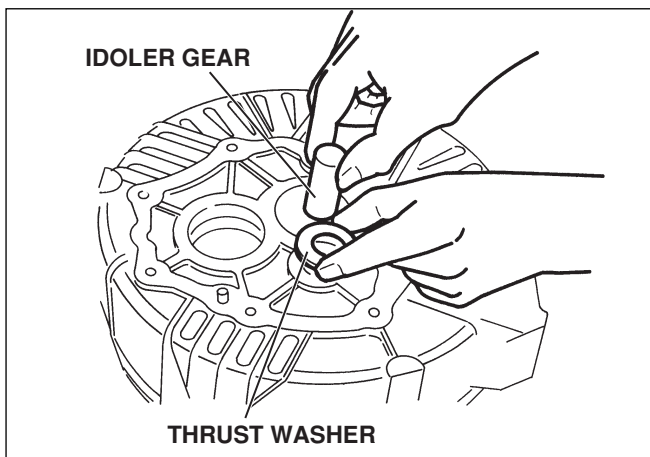

Fig. 10-7
- 4) Set the idler shaft with the thrust washer in the adaptor. (See Fig. 10-7.)